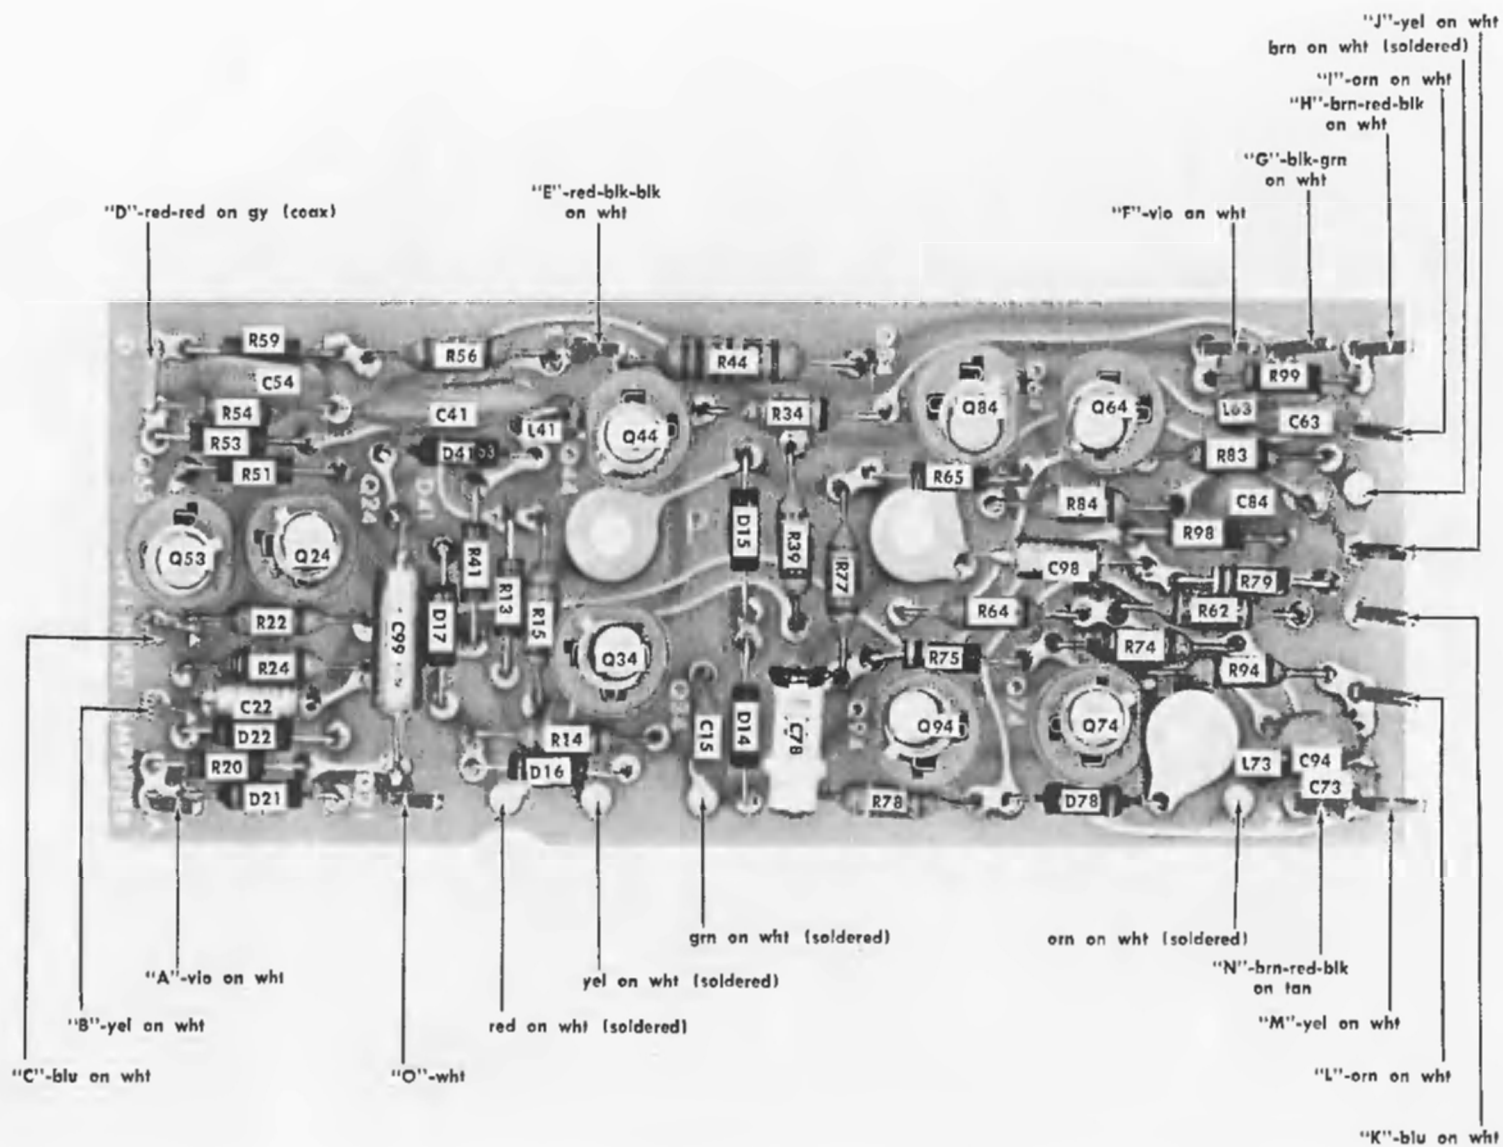

Fig. 4-8. Channel 1 Input Amplifier circuit board.
4. To replace the board, reverse the order of removal. Correct location of the pin connectors is shown in Figs. 4-8 through 4-15. Replace the pin connectors carefully so they mate correctly with the pins. If forced into place incorrectly positioned, the pin connectors may be damaged.